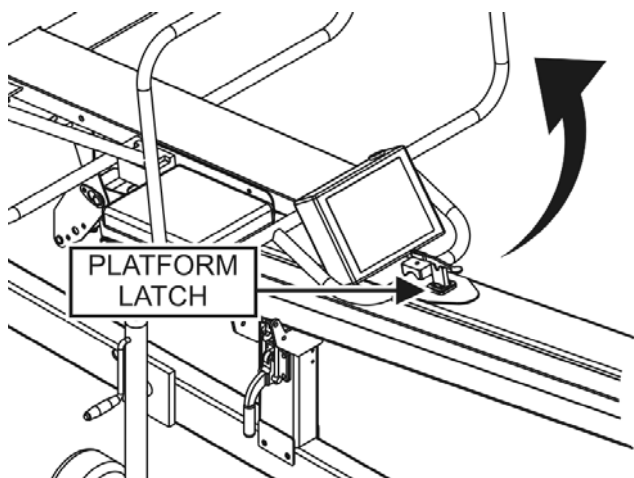

Figure 3-5. Platform Travel Latch
- ❑ Open the platform travel latch (Figure 3-5) and pivot the platform upright. Platform locking pins will engage in the pivot locking holes when the platform is in a full upright position. Verify that the platform is locked into place.